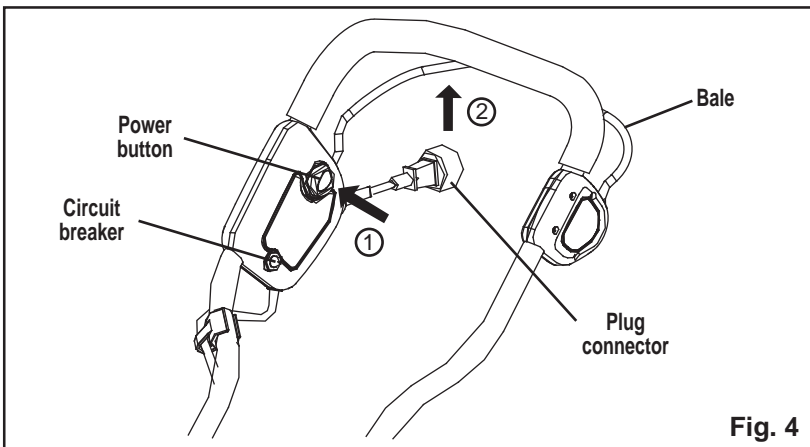

Fig. 4
STARTING AND STOPPING THE DETHATCHER (Fig. 4)
CIRCUIT BREAKER (Fig. 4)
2. Press the circuit breaker in order to reset it. Resume operation (See Figure 4).